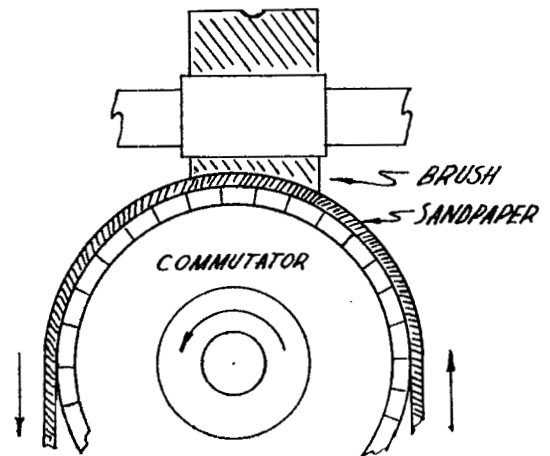

Fig.61 Sanding Distributor Brushes
(3) On models belt driven from fly-wheel, remove belt, remove nut holding generator pulley to shaft, remove bolts holding generator to fly-wheel housing, and carefully pull generator away from housing.
(4) On models belt driven from water pump, remove belt adjusting screw, belt, and hinge bolt.
(5) Loosen clamping screw and remove head band.
(6) Remove brushes from brush holder.
(7) Place new brushes in brush holders.
(8) Draw a piece of 00 sandpaper between the brushes and in the direction of the brush holder to properly seat the brush against the commutator. See Fig. 61.
(9) Blow out accumulated sand and dust and replace head band.
- (1) Disconnect starting motor wiring.
- (2) Remove bolts holding starting motor to flywheel housing.
- (3) Remove motor from housing.
- (4) Loosen the clamping screw and slide head band off motor.
- (5) Remove brushes from holders. If brush lead is riveted to brush holder, remove the rivet. If brush lead is soldered to field coil line, unsolder and bend open the loop on the field coil lead.
- (6) Install new brushes. Be sure bevel of brush fits the commutator.
- (7) Draw a piece of 00 sandpaper between the brushes and in the direction of the brush holder to properly seat the brush against the commutator. See Fig. 61.
- (8) Blow out sand and dust and replace motor on engine.